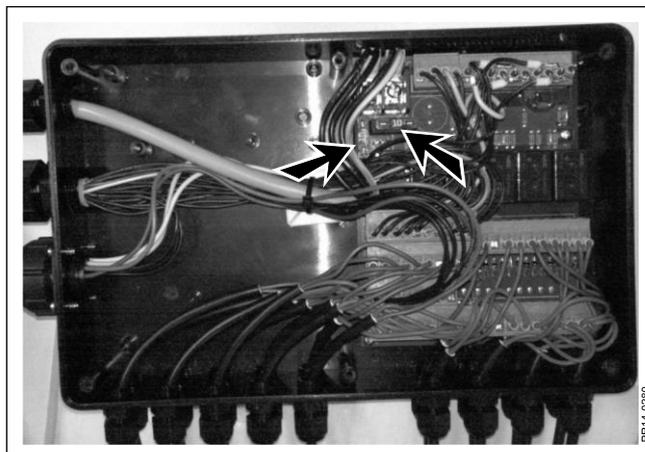

Fig. 7-5
**Fig. 7-5** There are two 10A fuses in the control system on the machine. Only replace the fuses by fuses with the same power value. Servicing, except replacement of fuses, must always be performed by an authorised JF dealer / service technician.